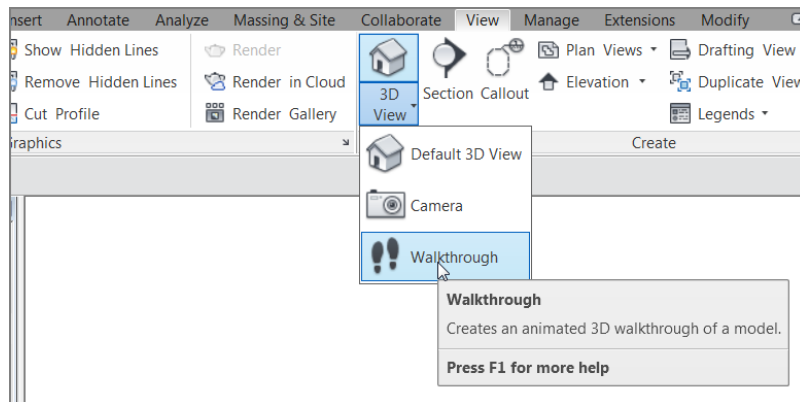

FIGURE 19.18: The Walkthrough command
2. On the View tab, choose 3D View > Walkthrough, as shown in Figure 19.18.